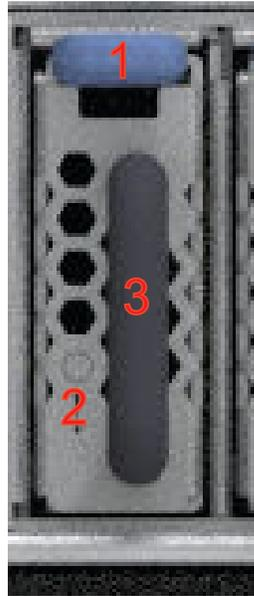

Figure 102. Removing the boot drive
7. Hold the boot drive handle (3) and press down on the release latch (1) towards the handle and pull to remove the boot drive. In Figure 102 on page 162, the faulty LED (2) location on the boot drive is shown.